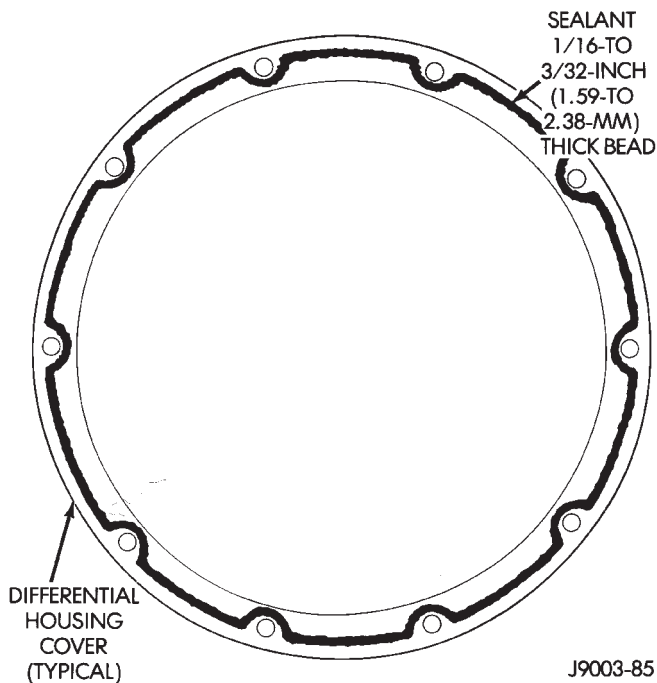

Fig. 12 RTV Sealant Application—Typical
(5) Flush the inside of the differential housing with a flushing oil. **Do not use water, steam, kerosene or gasoline for flushing.**
(6) Remove any residual RTV sealant/gasket material from the differential housing and cover. Thoroughly clean the contact surfaces with mineral spirits and dry the surfaces completely.
(7) Apply a bead of MOPAR RTV Sealant, or an equivalent sealant, around the bolt circle on the housing and on the cover (Fig. 12).